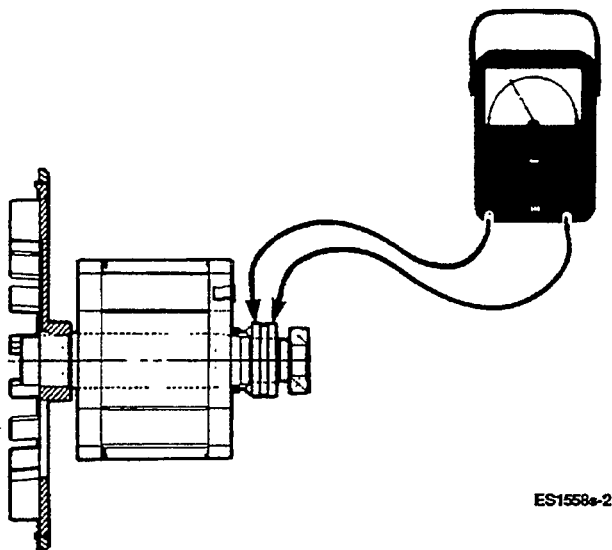

FIGURE 8-11. TESTING ROTOR FOR OPENS OR SHORTS
**Open Or Shorted Windings Test:** To test for open windings, set the ohmmeter for the highest resistance scale. Place test prods on the slip rings as shown in Figure 8-11. The ohmmeter should indicate continuity between slip rings. A high resistance reading indicates a poor connection or an open winding. Check the connection between the slip rings and rotor lead wires. Replace the rotor if the rotor winding is open.
To test for shorted windings, set the ohmmeter for the lowest scale. Place the test prods on the slip rings as shown in Figure 8-11. Resistance reading should be 20.25 to 24.75 ohms at 77° F (25° C). Replace a rotor with shorted windings with a new rotor.